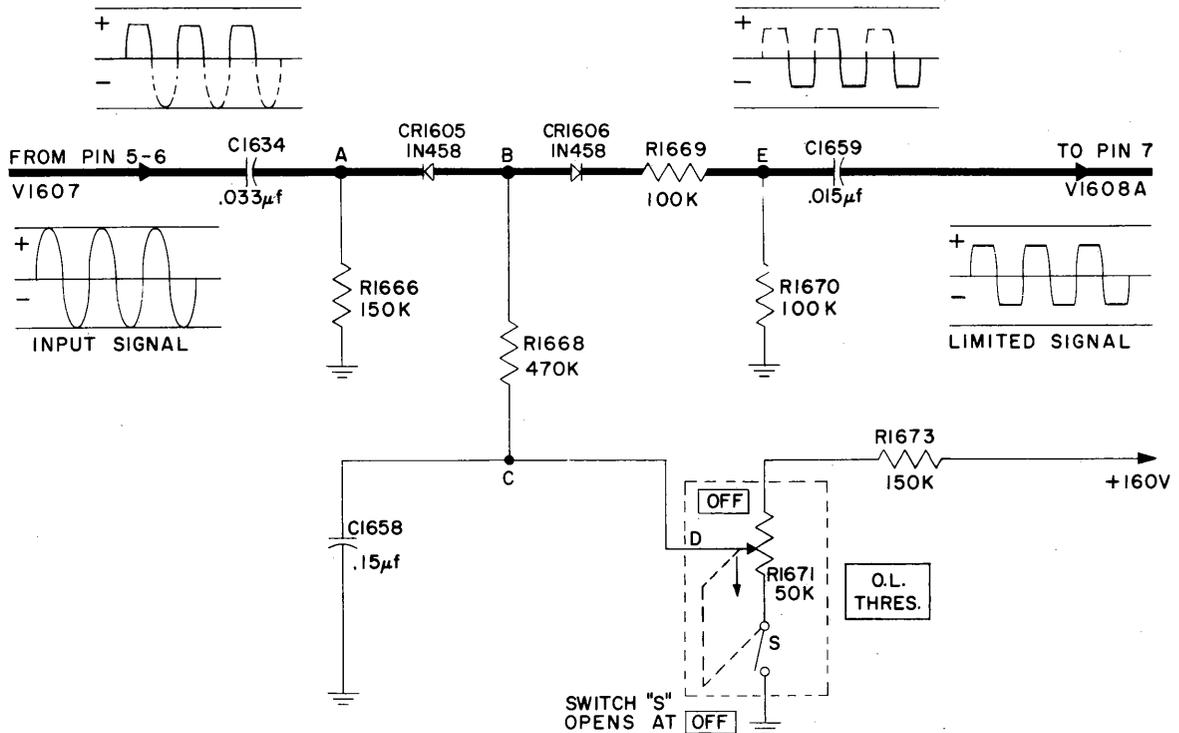

Figure 4-23. Output-Limiter Circuit CR1605 and CR1606, Simplified Schematic Diagram
f. OUTPUT-LIMITER CIRCUIT. (See figure 4-23.)
—The output-limiter circuit associated with the AM detector-amplifier is designed to limit the amplitude of the voltages to predetermined levels by clipping symmetrically both halves of the AF signal. The dc voltage level at which clipping occurs is governed by potentiometer R1671, a variable control to which is attached an on/off switch (S in figure 4-23). Both potentiometer and switch are operated by the O.L. THRES. control on the upper demodulator panel.